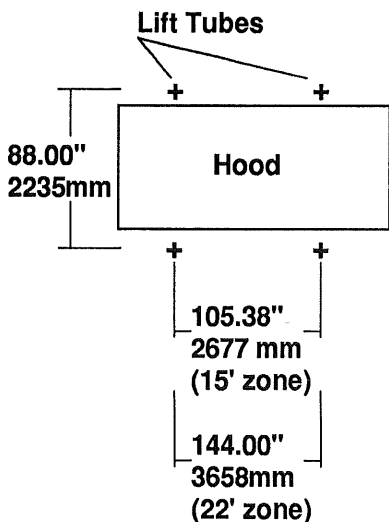

Fig. 5 - 1
d. Measure distances from centerline to centerline on all lift tubes along each side, across both ends (see Fig. 5 - 1) and on each diagonal. The measurements should be within 1/4 inch (6mm) in each direction.